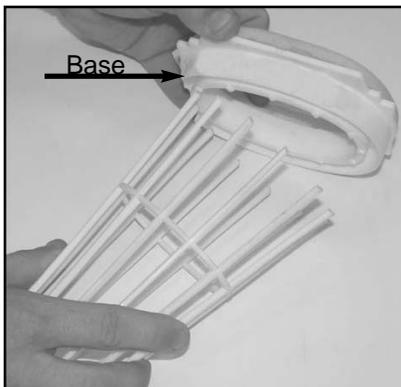

Fig. 1
3. Using wire cutters cut the plastic ribs of the air filter guide where they meet the plastic base. (Fig. 1)